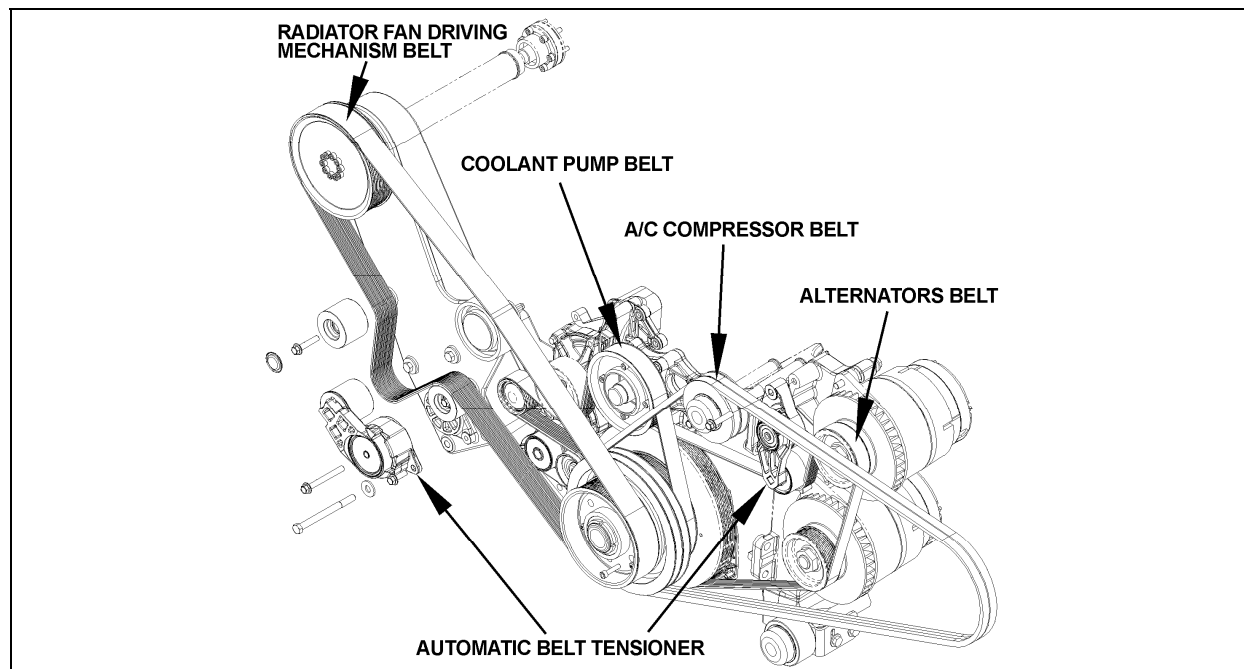

FIGURE 23: TWIN BOSCH ALTERNATORS INSTALLATION (VOLVO D13)
4. Install the alternators belt, the coolant pump belt, the A/C compressor belt and then the radiator fan driving mechanism belt (figure 23).